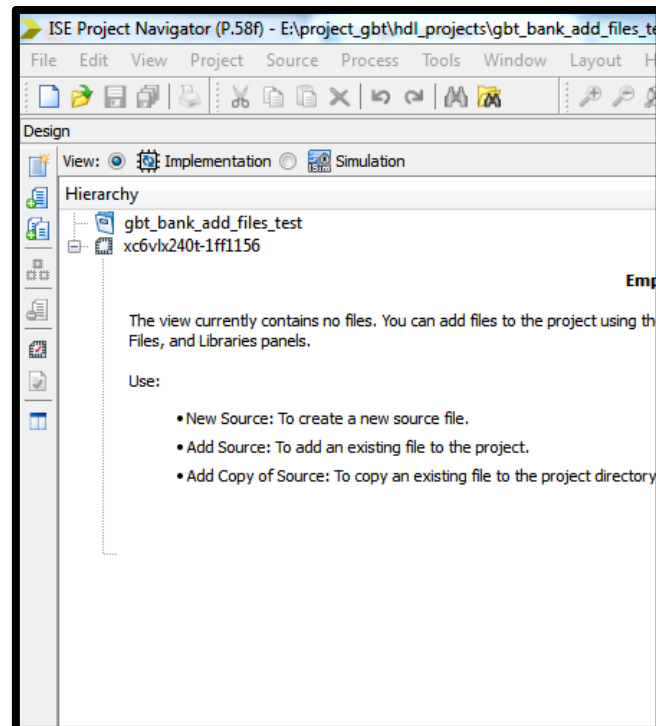
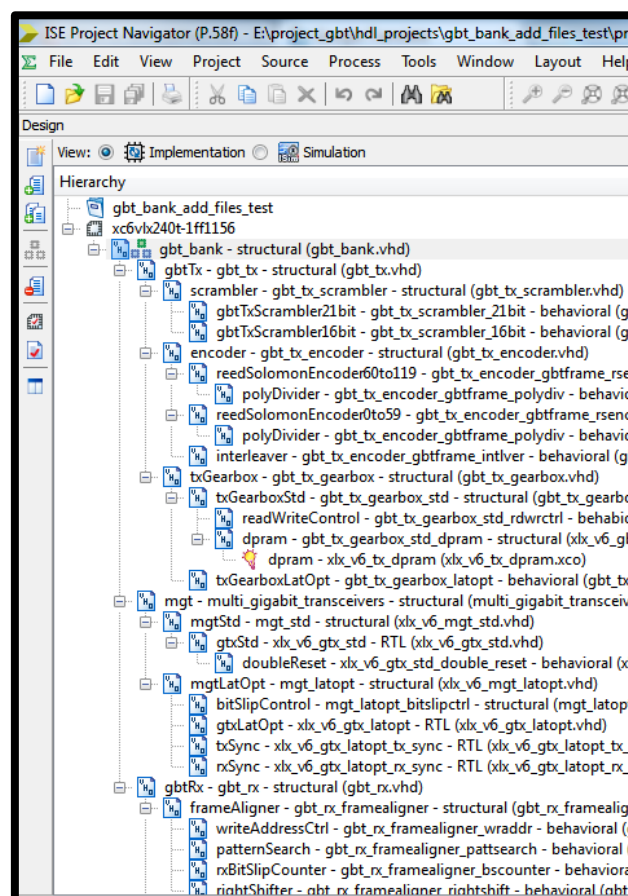

Figure 20: Hierarchy window before running the TCL script.
Figure 21: Hierarchy window after running the TCL script.
- After running the script the source files of the GBT-FPGA core of the selected FPGA appear in the “Hierarchy” window (see Figure 20 and Figure 21).